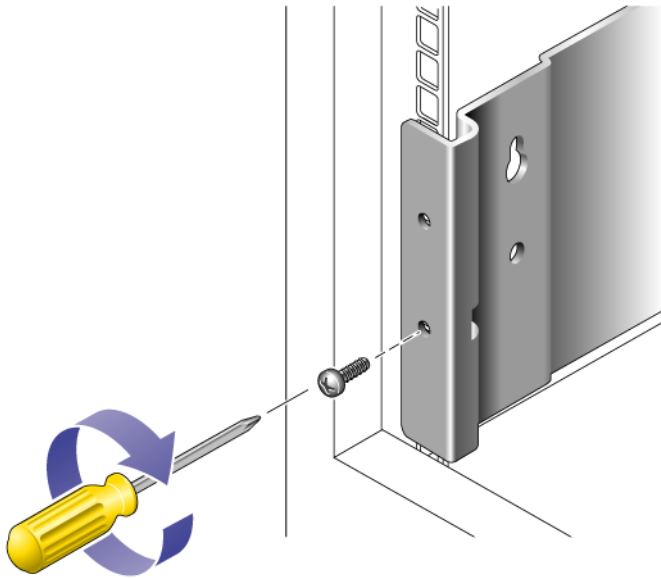

FIGURE 2-29 Securing the Rail to the Back of the Cabinet
- 6. Insert and tighten a screw appropriate for the cage nut to secure the rail to the back cabinet rail (FIGURE 2-29).**